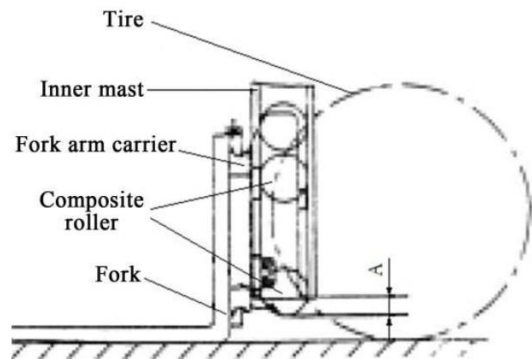

Fig. 6-11
(1) Park the car on flat ground and make the mast vertical.
(2) Make the fork bottom surface touch the ground, and adjust the adjusting nut of the upper end joint of the chain in such way that there is a distance A between the main roller and the lower end surface of mast channel steel, as shown in Fig. 6-11.